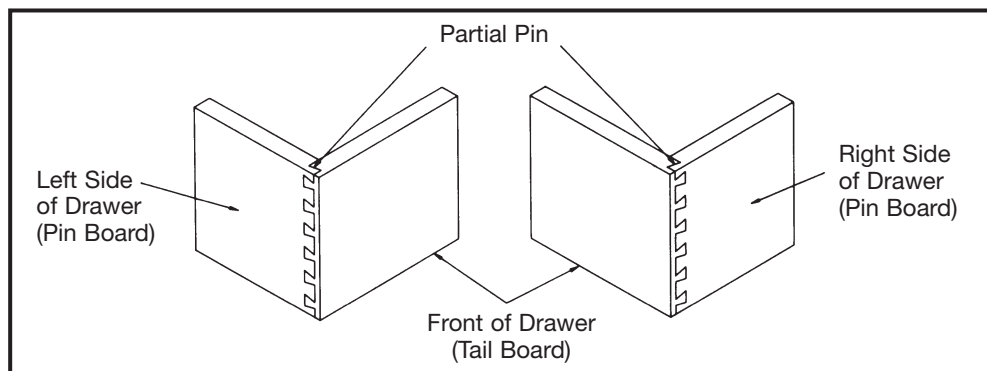

Fig. 12
10. If for appearance reasons the partial pins are desired to be in the same location of both sides of the drawer as shown in Fig. 12, then rout the right end of the drawer front and right side of the drawer on the right end of the templet. Adjust the edge guide the same as those on the left (mirror image).